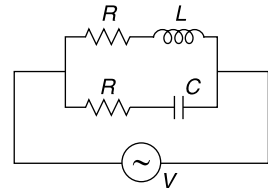

Fig. 5.58 Circuit diagram for Ex. 5.71
5.71 Prove that the impedance of a parallel ac circuit containing R and L in one branch and R and C in the other branch (Fig. 5.58) is equal to R when $R^2 = \frac{L}{C}$.